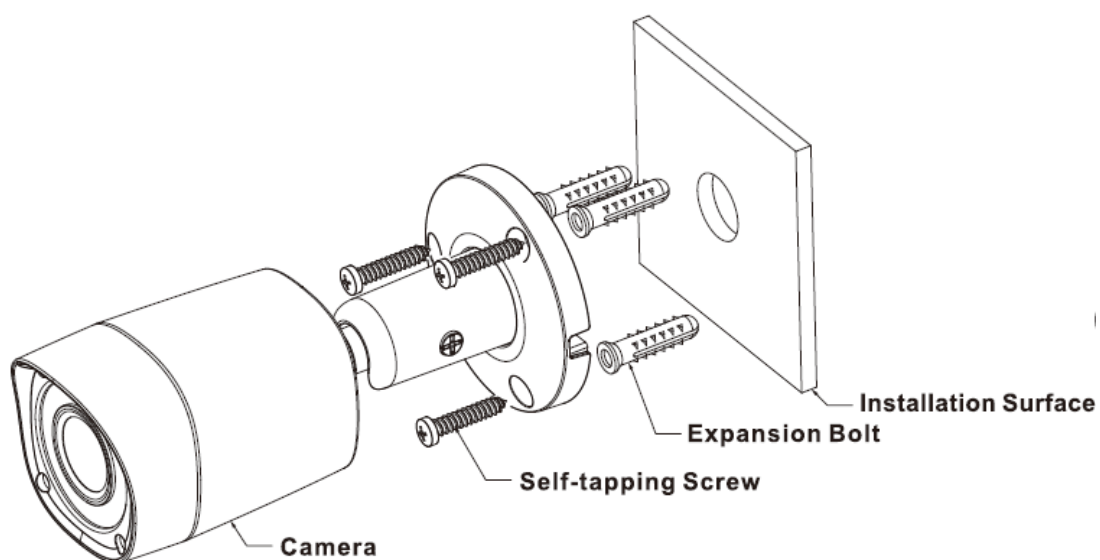

Figure 3-10
- Please install the expansion bolt if you want to install in the cement wall (Please make sure the installation holes of the expansion bolts are the same with the bracket.) Then you can install the bracket. See Figure 3-10.